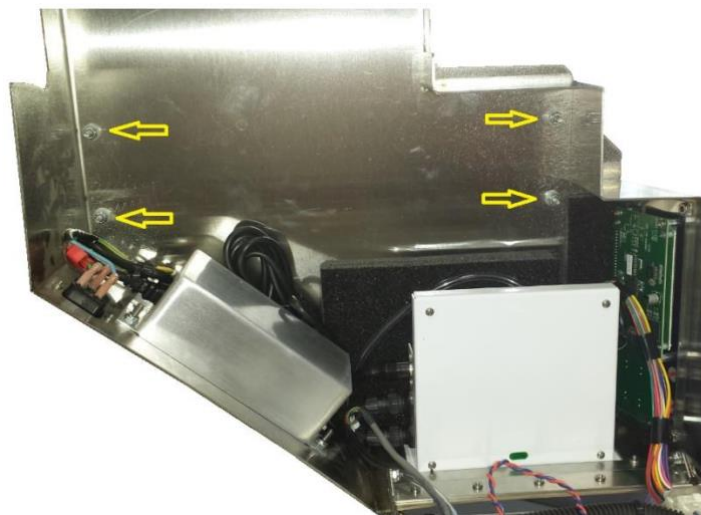

Figure 11 - Location to mount the battery backup
- 3.1.1.2. Locate the mounting location for installing the battery backup. It will mount to the studs in Figure 11 below.